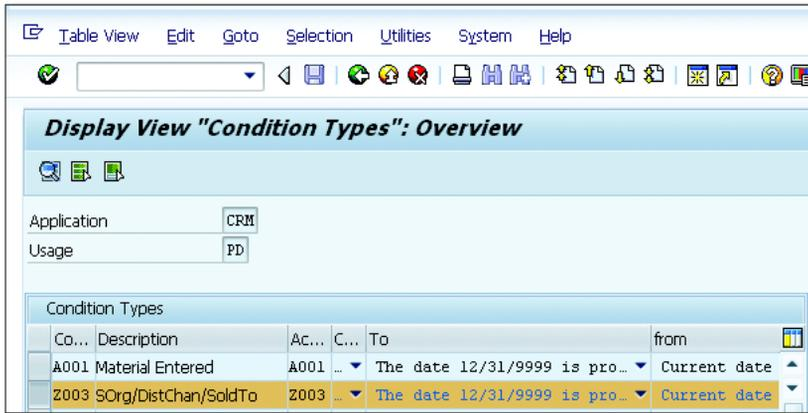

Figure 4.34 Condition Type Downloaded from SAP ERP to SAP CRM
4. Condition types are downloaded from SAP ERP, as shown in Figure 4.34. The condition type key in this case is Z003, which is the same as the access sequence.